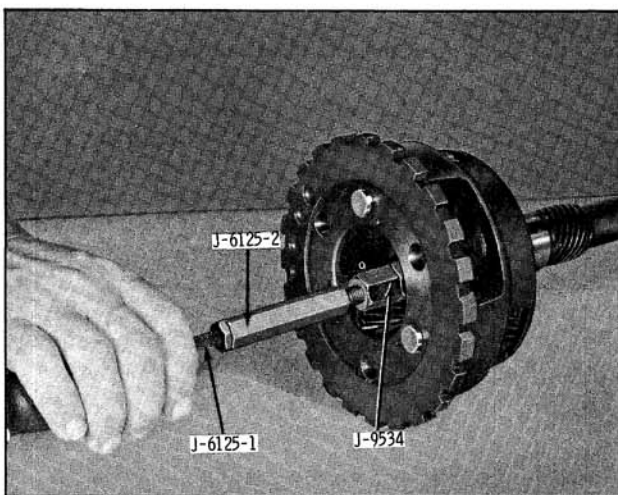

Fig. 6-462 Removing Output Shaft Bushing
12. Check output shaft bushing for nicks, severe scoring or wear. If bushing replacement is necessary, continue as follows. Install Bushing Remover J-9534 into bushing. Install Slide Hammer J-2619 into J-9534, and remove bushing from planet carrier. (Fig. 6-462)